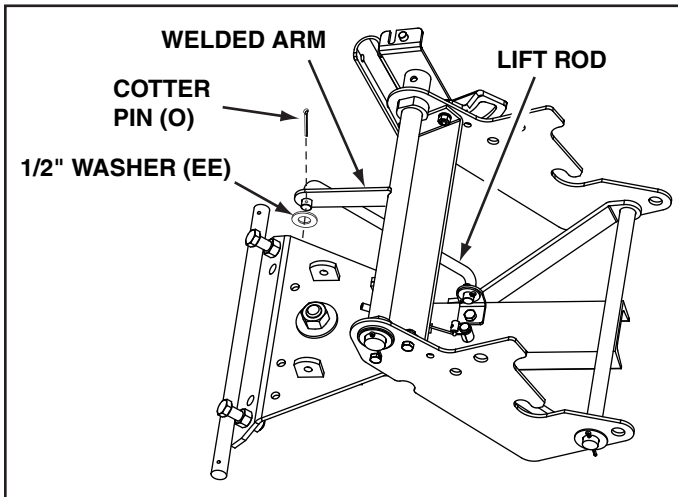

FIGURE 16
STEP 15: (SEE FIGURE 16)
- Attach the ends of the lift rod to the lift bracket on the channel and the welded arm on the frame assembly. Use two 1/2" washers (EE) and 1/8" x 1-1/4" cotter pins (O).